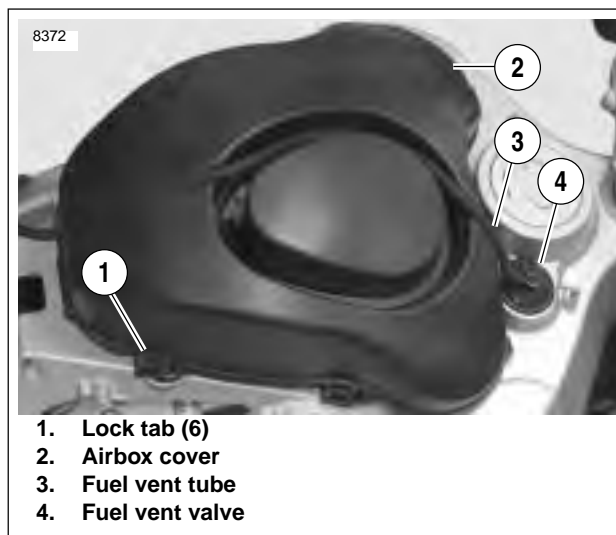
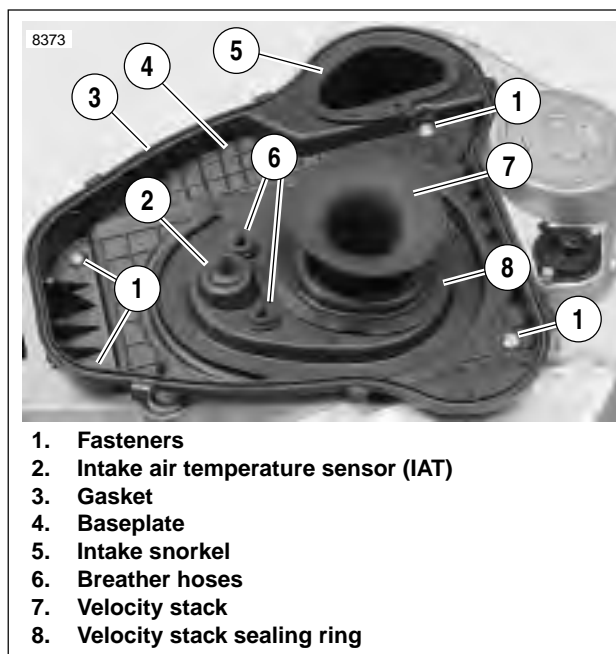

Figure 4-219. Airbox Cover
Figure 4-220. baseplate
2. See Figure 4-219. Remove fuel vent tube (3) from fuel vapor valve (4) and groove on top of airbox cover (2).
3. Unlatch six lock tabs (1) and remove airbox cover from baseplate.
5. See Figure 4-220. Remove air cleaner baseplate.
- a. Remove four fasteners (1) and raise baseplate (4).
- d. Remove IAT sensor (2) from grommet on bottom of baseplate.
- e. Lift baseplate off of frame, carefully disengaging baseplate from rubber sealing ring (8) on velocity stack (7).